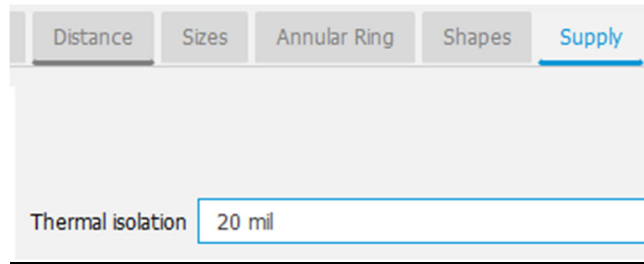

Figure 35 - Supply rules.
- iv. **Verify** that all pads for all parts in the layout have an oblong shape. Looking at Figure 35, this means they look like the shape for IC2, not round like for R2.